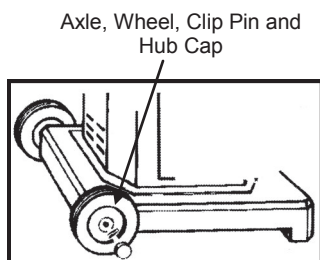

Fig. 3
C. On portable bases, attach the wheels by slipping the axle through the base, slide the wheels on and install the axle clips. Finish by snapping the hubcaps on. Flat base permanent models must be Lag Bolted to the deck or concrete for stability. (Fig. 3)
C. On portable bases, attach the wheels by slipping the axle through the base, slide the wheels on and install the axle clips. Finish by snapping the hubcaps on before standing upright. Flat base permanent models must be Lag Bolted to the deck or concrete for stability. (**Fig. 3 Page 8**)